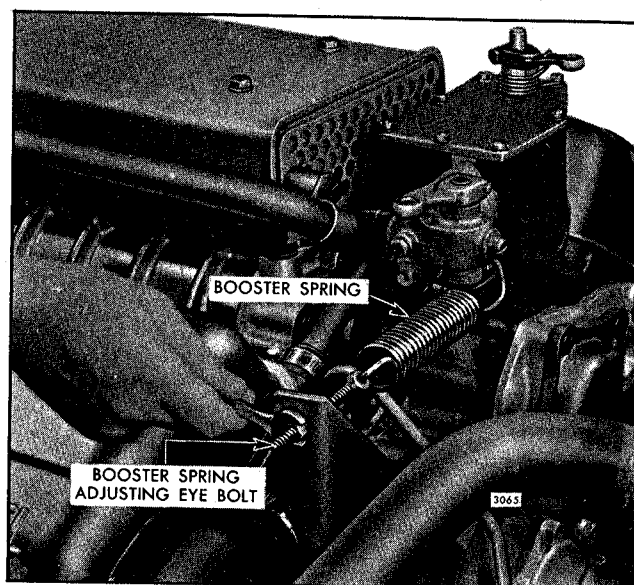

Fig. 21 - Adjusting Booster Spring
1. Refer to Fig. 21 and disconnect the booster spring and the stop lever retracting spring.
1. Refer to Fig. 21 and loosen the booster spring retaining nut on the speed control lever. Loosen the lock nuts on the eye bolt at the other end of the spring.